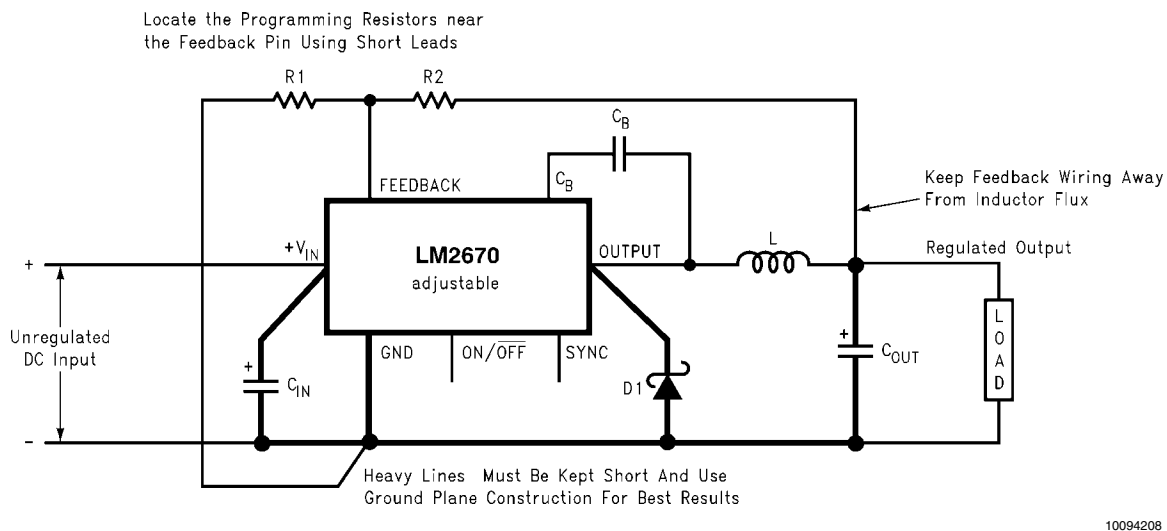

FIGURE 2. Basic circuit for adjustable output voltage applications
Step 2: Select an LM2670S-ADJ. To set the output voltage to 14.9V two resistors need to be chosen (R1 and R2 in Figure 2). For the adjustable device the output voltage is set by the following relationship: